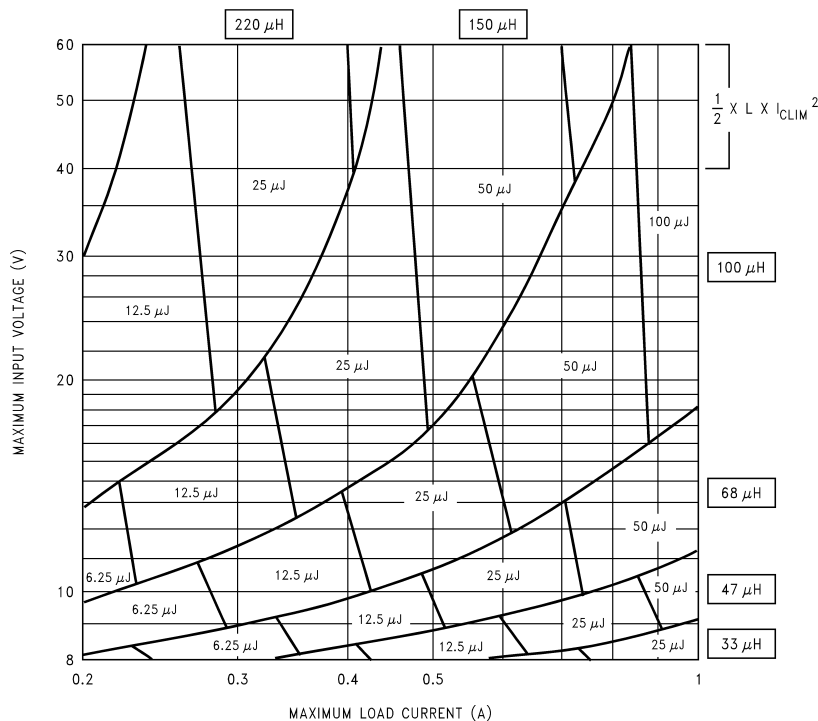

Figure 26. LM2591HV-5.0
1. A first pass inductor selection is based upon *Inductance and rated max load current*. We choose an inductor with the Inductance value indicated by the nomograph (see Figure 26) and a current rating equal to the maximum load current. We therefore quick-select a $100\mu\text{H}/0.8\text{A}$ inductor (designed for 150 kHz operation) for this application.
2. We should confirm that it is rated to handle 50 μJ (see Figure 26) by either estimating the peak current or by a detailed calculation as shown in AN-1197 SNVA038, and also that the losses are acceptable.
1. A first pass inductor selection is based upon *Inductance and the switch current limit*. We choose an inductor with the Inductance value indicated by the nomograph (Figure 26) and a current rating equal to I_{CLIM} . We therefore quick-select a 100 μ H/3A inductor (designed for 150 kHz operation) for this application.